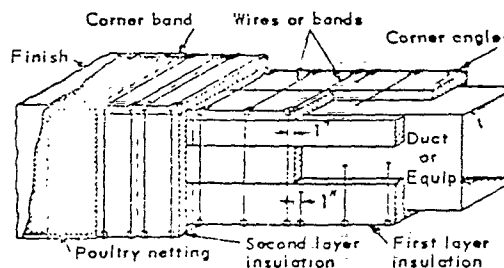

FIGURE 4
4.2 Block insulation shall be applied with joints tightly butted together and lateral joints staggered. Bands shall be placed over blocks approximately 1 inch from each end of each block, thus providing four bands for each block in length of insulation, where welding is permissible, the blocks may be supported by bands fastened to clips that are tacked on the metal surfaces. For either vertical surfaces or horizontal surfaces facing up, the bands shall be spaced at 2-foot intervals. For horizontal surfaces facing down, the bands shall be spaced at 1-foot intervals. At square corners of insulation of flat surfaces, metal corner angles or shields shall be placed under the bands to prevent cutting of insulation. All chipped edges, cracks or imperfections shall be filled and smoothed with Insulation Cement, Code 502. Over the insulation and bands apply Poultry Netting, Code 714, drawn tight and laced into place. See Figure 4.